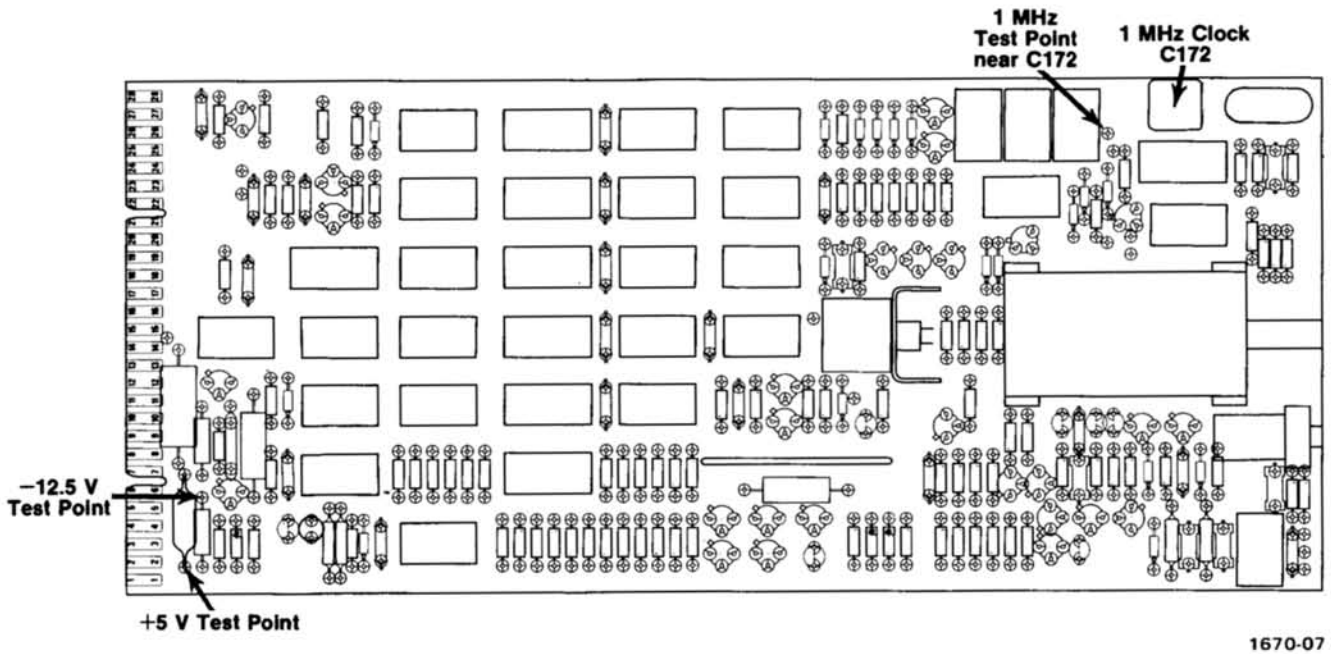

Fig. 3-1. Test point and adjustment locations.
**2. Check Power Supplies (see Fig. 3-1)**